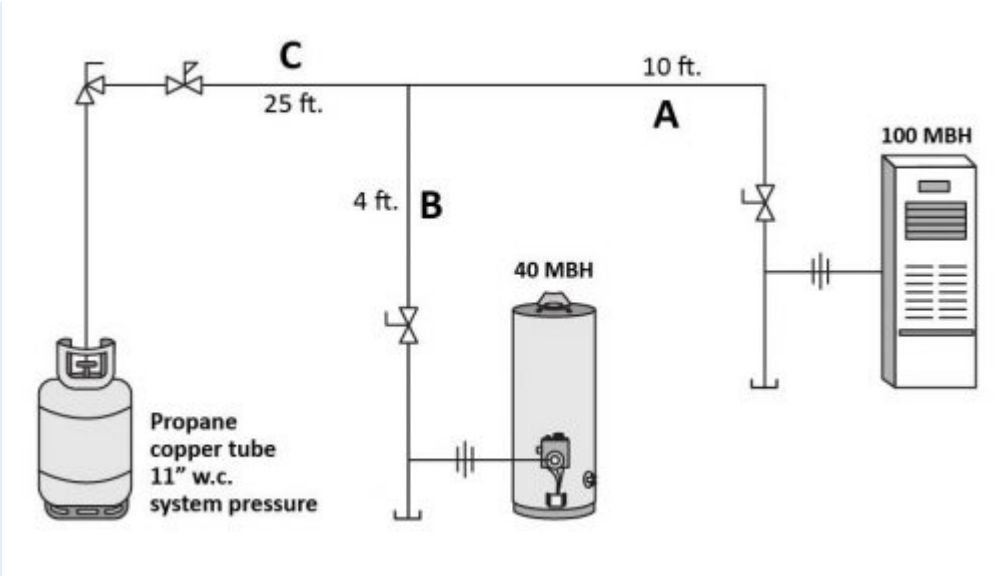

Figure 5
2. Size the drawing in Figure 5 and show all calculations.
- Figure 5 by Camosun College is licensed under a CC BY 4.0 licence (<https://creativecommons.org/licenses/by/4.0/>).